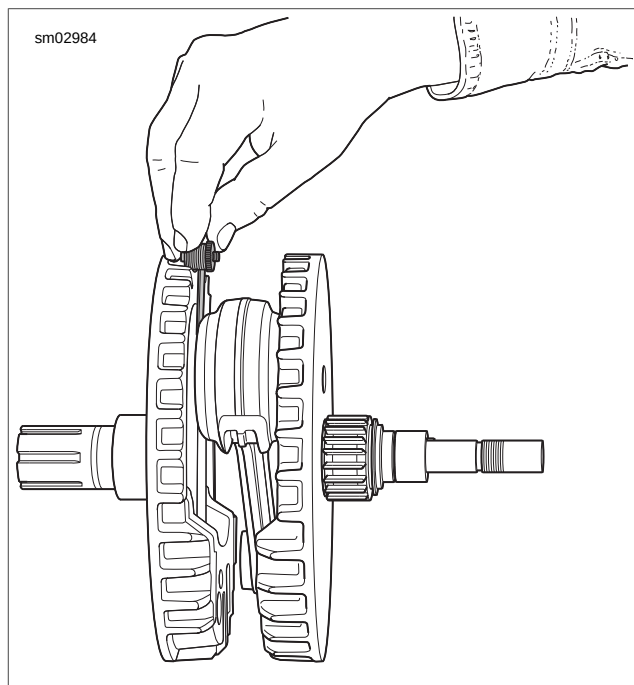

Figure 3-135. Checking Connecting Rod Side Play
1. See Figure 3-135. Check connecting rod side play with a thickness gauge as shown.